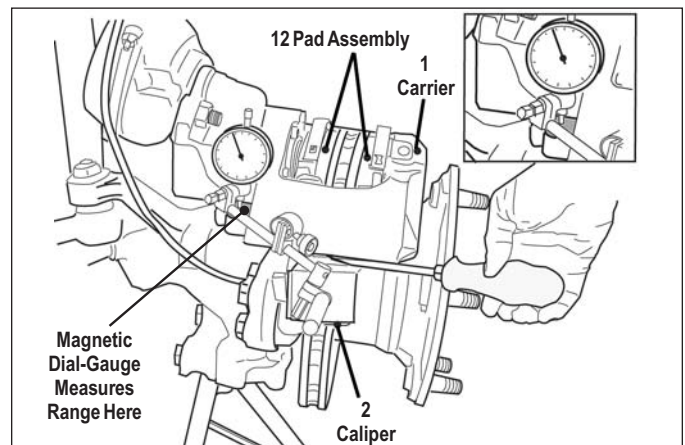

FIGURE 27 - MAGNETIC DIAL-GAUGE IN USE
- 4.5.2 Place a suitable tool (e.g. a large flat-blade screwdriver) between carrier (2) and caliper (1) forcing them in opposite directions, and read the maximum value on the dial-gauge. See Figure 27.